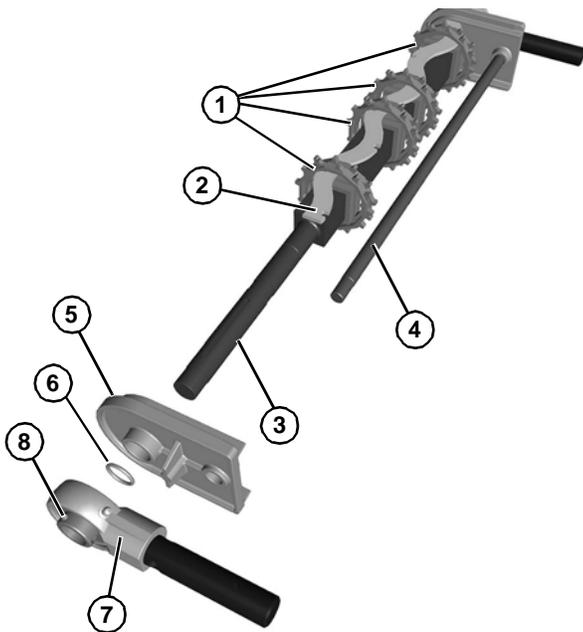

Figure 72
1. Assemble sprockets (Figure 72, item 1) to the slots of alignment bar (Figure 72, item 2), and install assembly onto drive spindle (Figure 72, item 3).
2. Install pinch guard shaft (Figure 72, item 4).
3. Slide the tracking plate (Figure 72, item 5) onto the drive spindle and pinch guard shaft.
When installing tracking plate, be certain O-ring (Figure 72, item 6) is installed.
4. Slide the shaft assembly (Figure 72, item 7) onto the drive spindle and tighten set screws (Figure 72, item 8) on bearing.